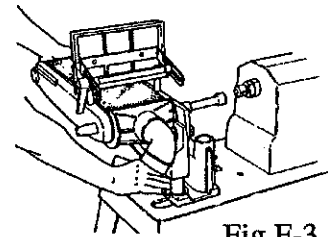

Fig.F-3
6. Unlock the carriage (21) by turning the handle (19) to the left. With your hands placed on the carriage and Belt Sander, slide the carriage and Belt Sander toward the Power Station's drive shaft hub (31) until the coupler almost touches the hub. See Fig.F-3.
7. Lock the carriage by turning the handle (19) to the right.